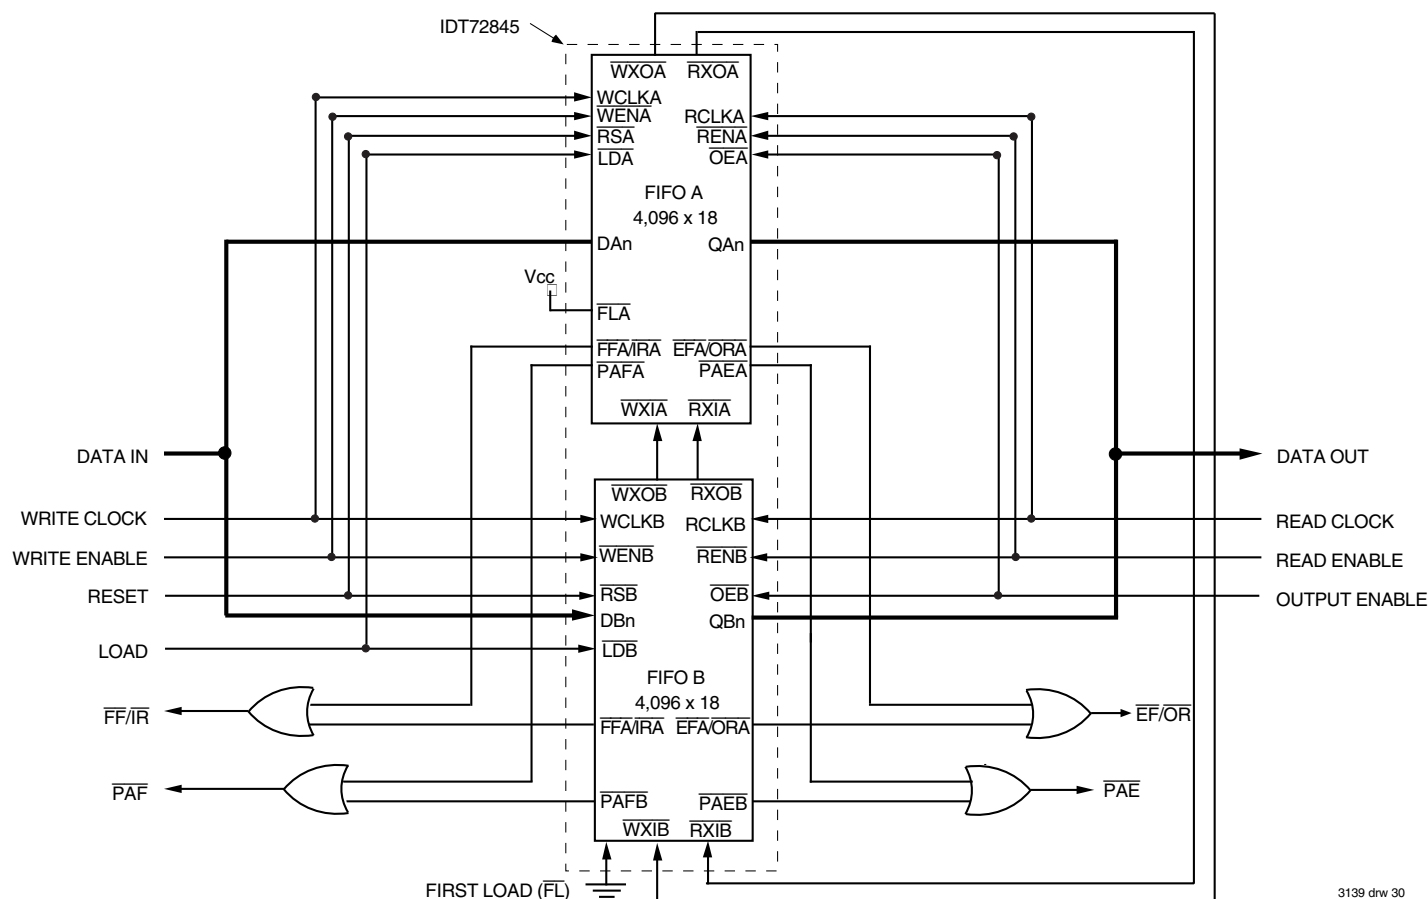

Figure 30. Block Diagram of 8,192 x 18 Synchronous
These devices can easily be adapted to applications requiring more than 256/512/1,024/4,096 words of buffering. Figure 30 shows Depth Expansion using one IDT72805LB/72815LB/72825LB/72845LBs. Maximum depth is limited only by signal loading. Follow these steps:
3. The Write Expansion Out (\overline{WXO}) pin of each device must be tied to the Write Expansion In (\overline{WXI}) pin of the next device. See Figure 30.
4. The Read Expansion Out (\overline{RXO}) pin of each device must be tied to the Read Expansion In (\overline{RXI}) pin of the next device. See Figure 30.